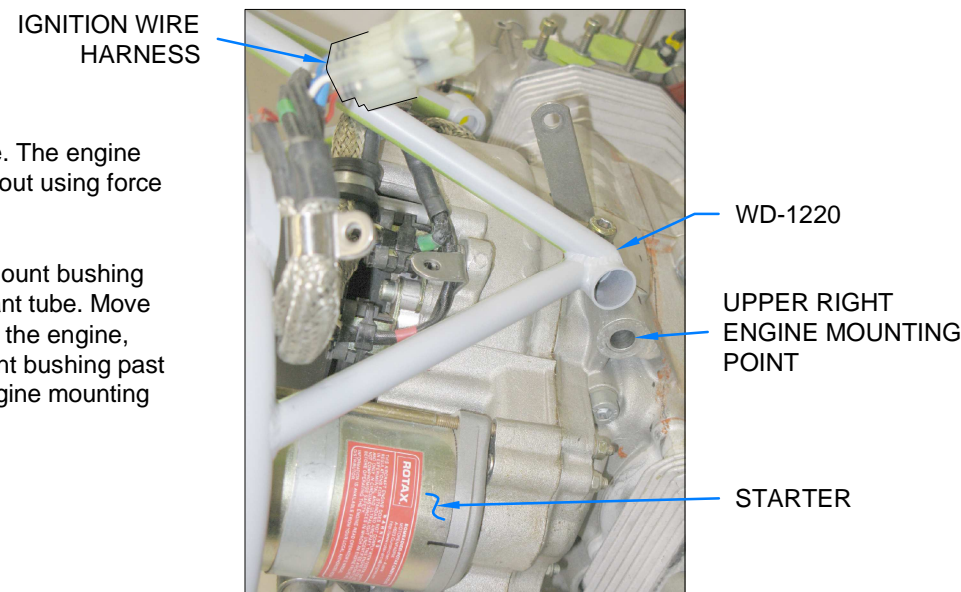

FIGURE 3: INSTALL ENGINE MOUNT: PART 1
Step 5: Hook the lower right engine mount bushing over the lower right water pump coolant tube. Move the ignition module up and away from the engine, then slide the upper right engine mount bushing past the starter towards the upper right engine mounting point. See Figures 3 and 4.
Step 7: Pull the ignition wire harness through the upper right side of the WD-1220 as shown in Figure 3.